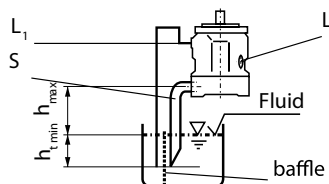

fig. 2
b) If the min. fluid level is below the pump mounting surface: pipe port "L" and "S" acc. to fig. 2, close port "L" (compare item limiting conditions)
Before installation fill pump housing while keeping it in a horizontal position. For mounting above the tank see fig. 2.